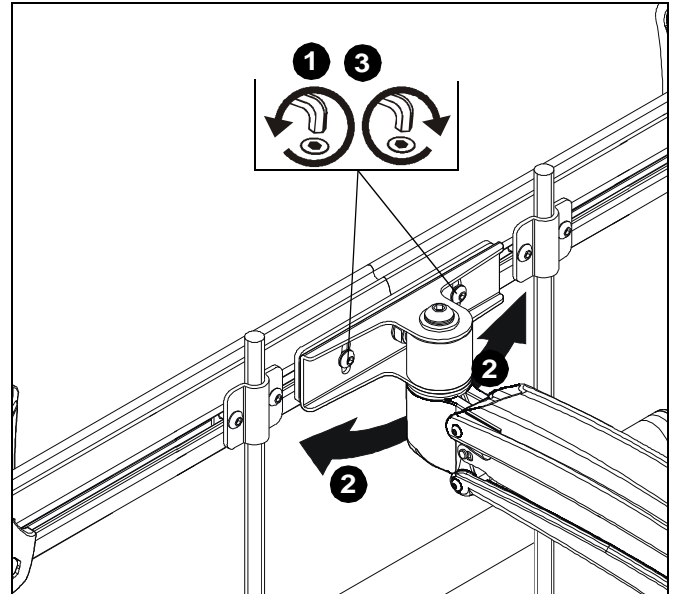

Figure 13
1. Loosen roll adjustment screws on back of array bracket. (See Figure 13)
2. Adjust roll of array bar as desired. (See Figure 13)
3. Tighten roll adjustment screws on back of array bracket. (See Figure 13)